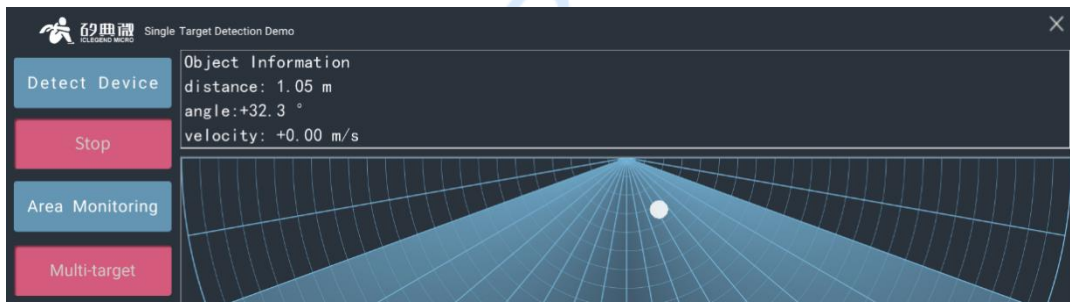

Figure 4-7 Example of single target detection demonstration
Step 3: Click the **Start/Stop** toggle button, the GUI will display the position of the detected target referring to the radar, an example is shown in Figure 4-7;